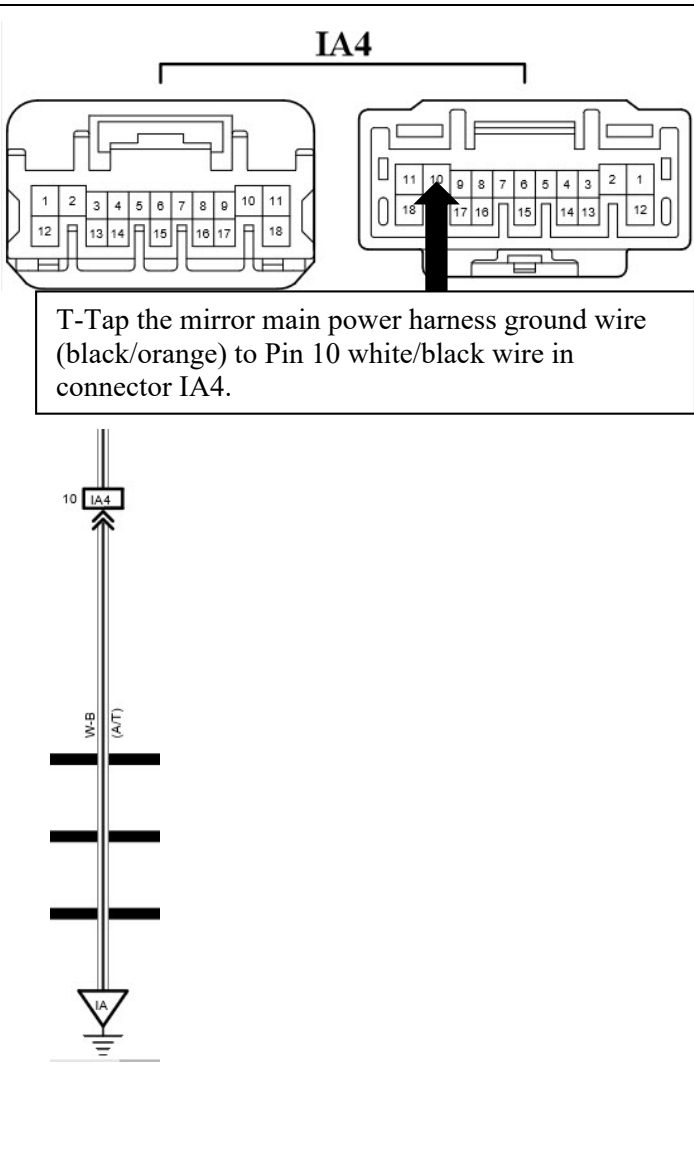

Figure 20a
20. T-Tap the mirror main power harness ground wire (black/orange) to Pin 10 white/black wire in connector IA4. See figure 20a and 20b.